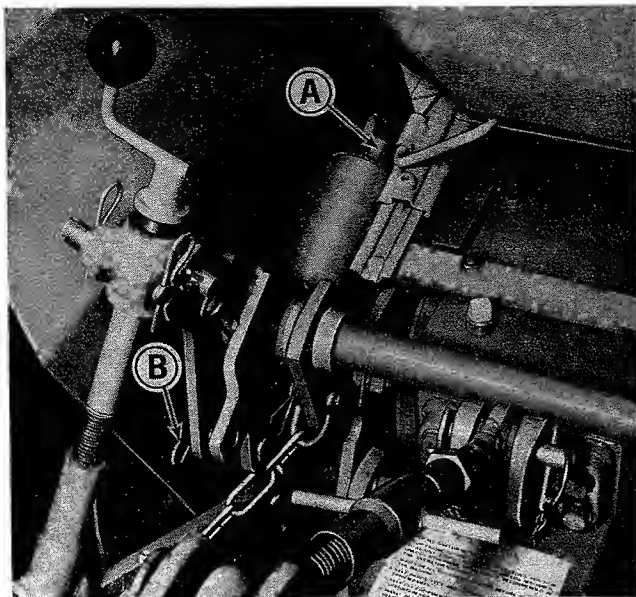

Figure 10. Removing the hydraulic cylinder.
2. See figure 10. Remove the spring clips and pins at (A) & (B).